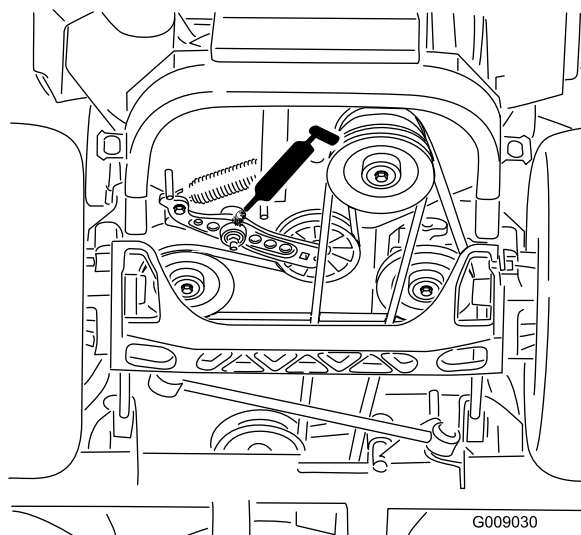

Figure 42
4. Grease the drive-belt-idler arm (Figure 42).